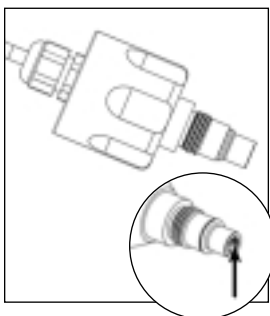
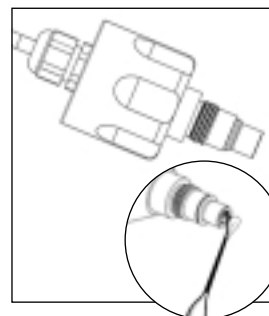

Figure 4A
Figure 4D
2. Once the sensor is free from the reactor chamber, clean the quartz window (Figure 4A) with a commercial scale remover (CLR or Lime-A-Way) and a lint free cotton swab (Figure 4D). Follow all manufacturer's instructions regarding the cleaning fluid used. Do not use an abrasive cleaner on the sensor window. Scratching of the sensor window will void any manufacturer's warranty on this item.